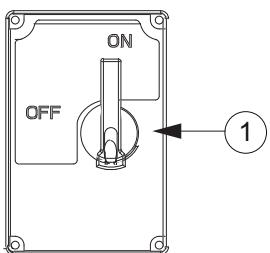

fig. 63 Start the Neck Skin Cutting Module
- Turn disconnect switch 1 to the on position. See fig. 63.